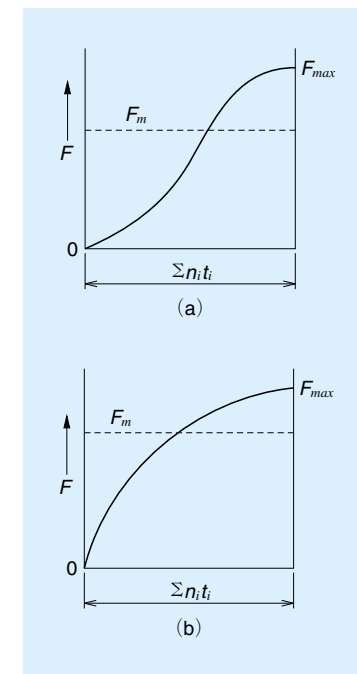

Fig. II-5-3 Load changes in sinusoidal pattern (Fig. II-5-3)
3. When rotational speed is constant, and the load changes in sinusoidal pattern (Fig. II-5-3)